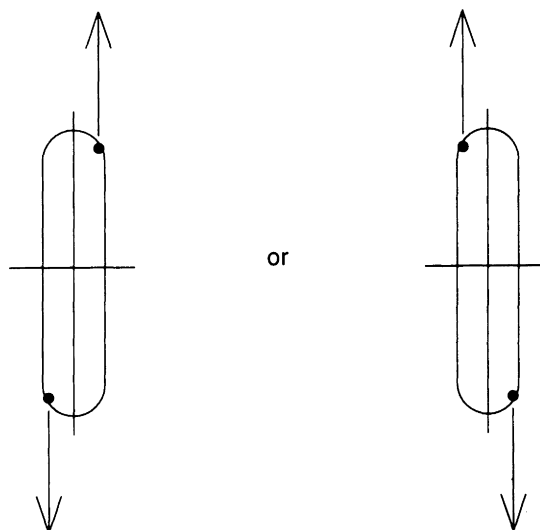

Figure 4.40
**Dynamic unbalance** occurs when masses creating centrifugal forces do not act in the same plane. This is sometimes referred to as wheel shimmy and causes serious damage. See Figure 4.40.